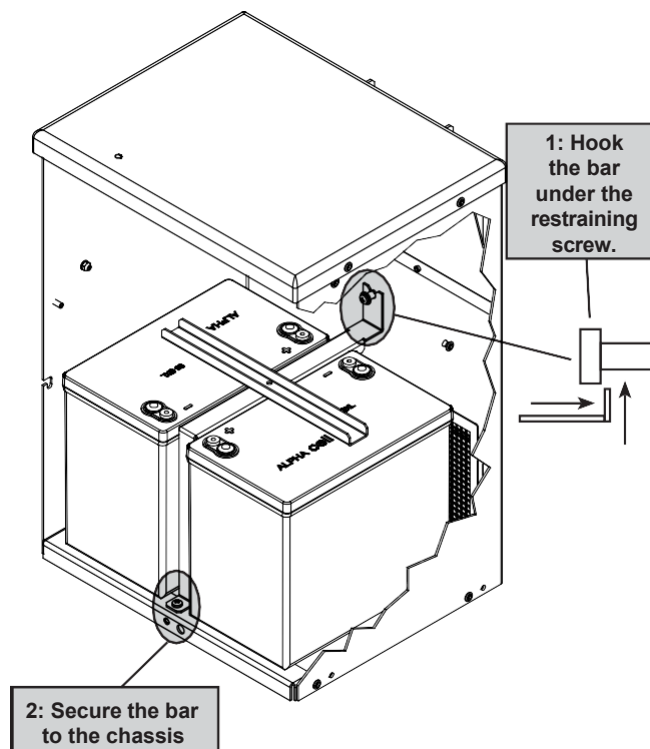

Figure 23 — Securing the batteries with the optional restraining bar
5. If the optional battery restraining bar is used, install it as shown in Figure 23.